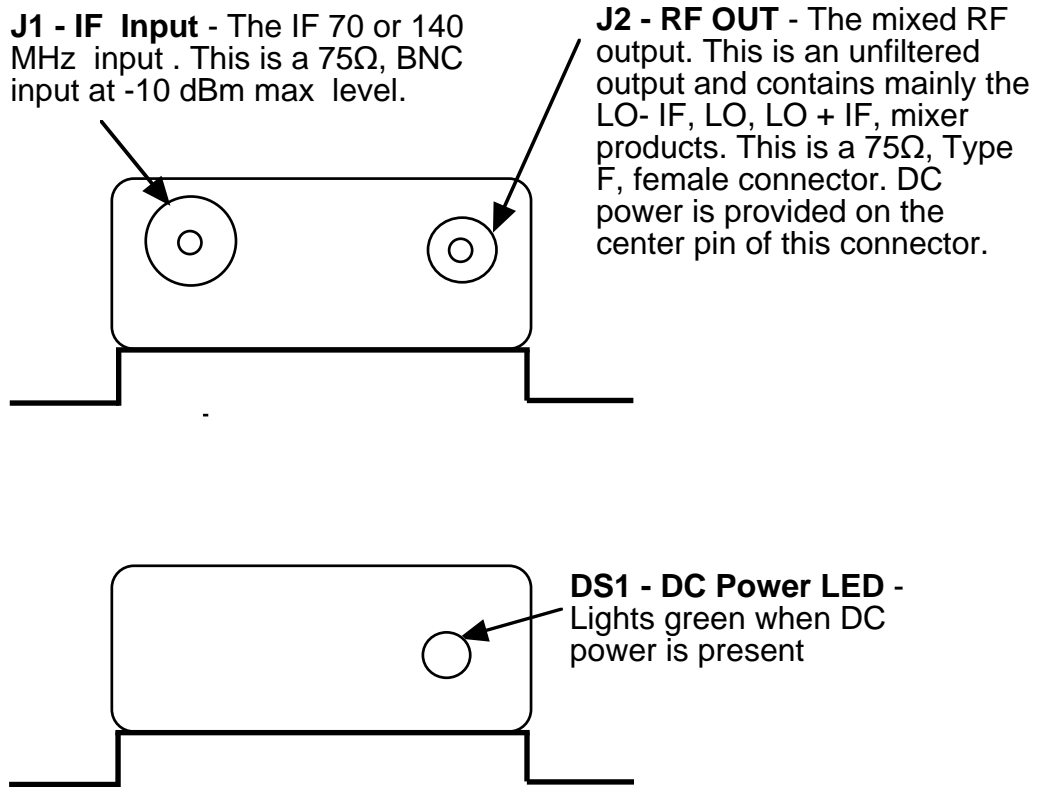

FIGURE 2.3 2006-02 Input, Output, Power LED
2.2 Controls and Indicators - There are no controls. A green LED indicates presence of DC power (Figure 2.3).
2.3 Input / Output Signals - Figure 2.3 shows the input and output signals to the 2006-02.
- 4.) Connect a -10dBm (max.) signal to IF In, J1 (Figure 2.3)